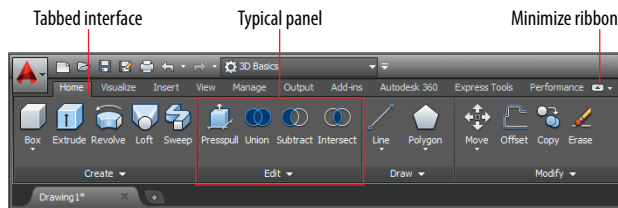

FIGURE 1.10 The full ribbon interface
1. Open the Customize Quick Access Toolbar menu and choose Workspace. Choose the 3D Basics workspace from the drop-down menu in the Quick Access toolbar. The ribbon replaces all the Classic menus and toolbars (see Figure 1.10). Close the Tool Palettes if it is open.